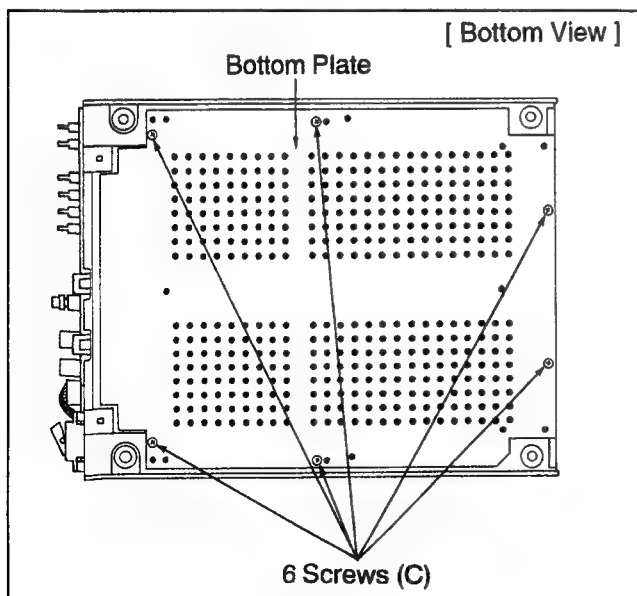

Figure D4
1. Unscrew 6 screws (C) on the Bottom Plate.
2. Lift off the Bottom Plate (Figure D4.).